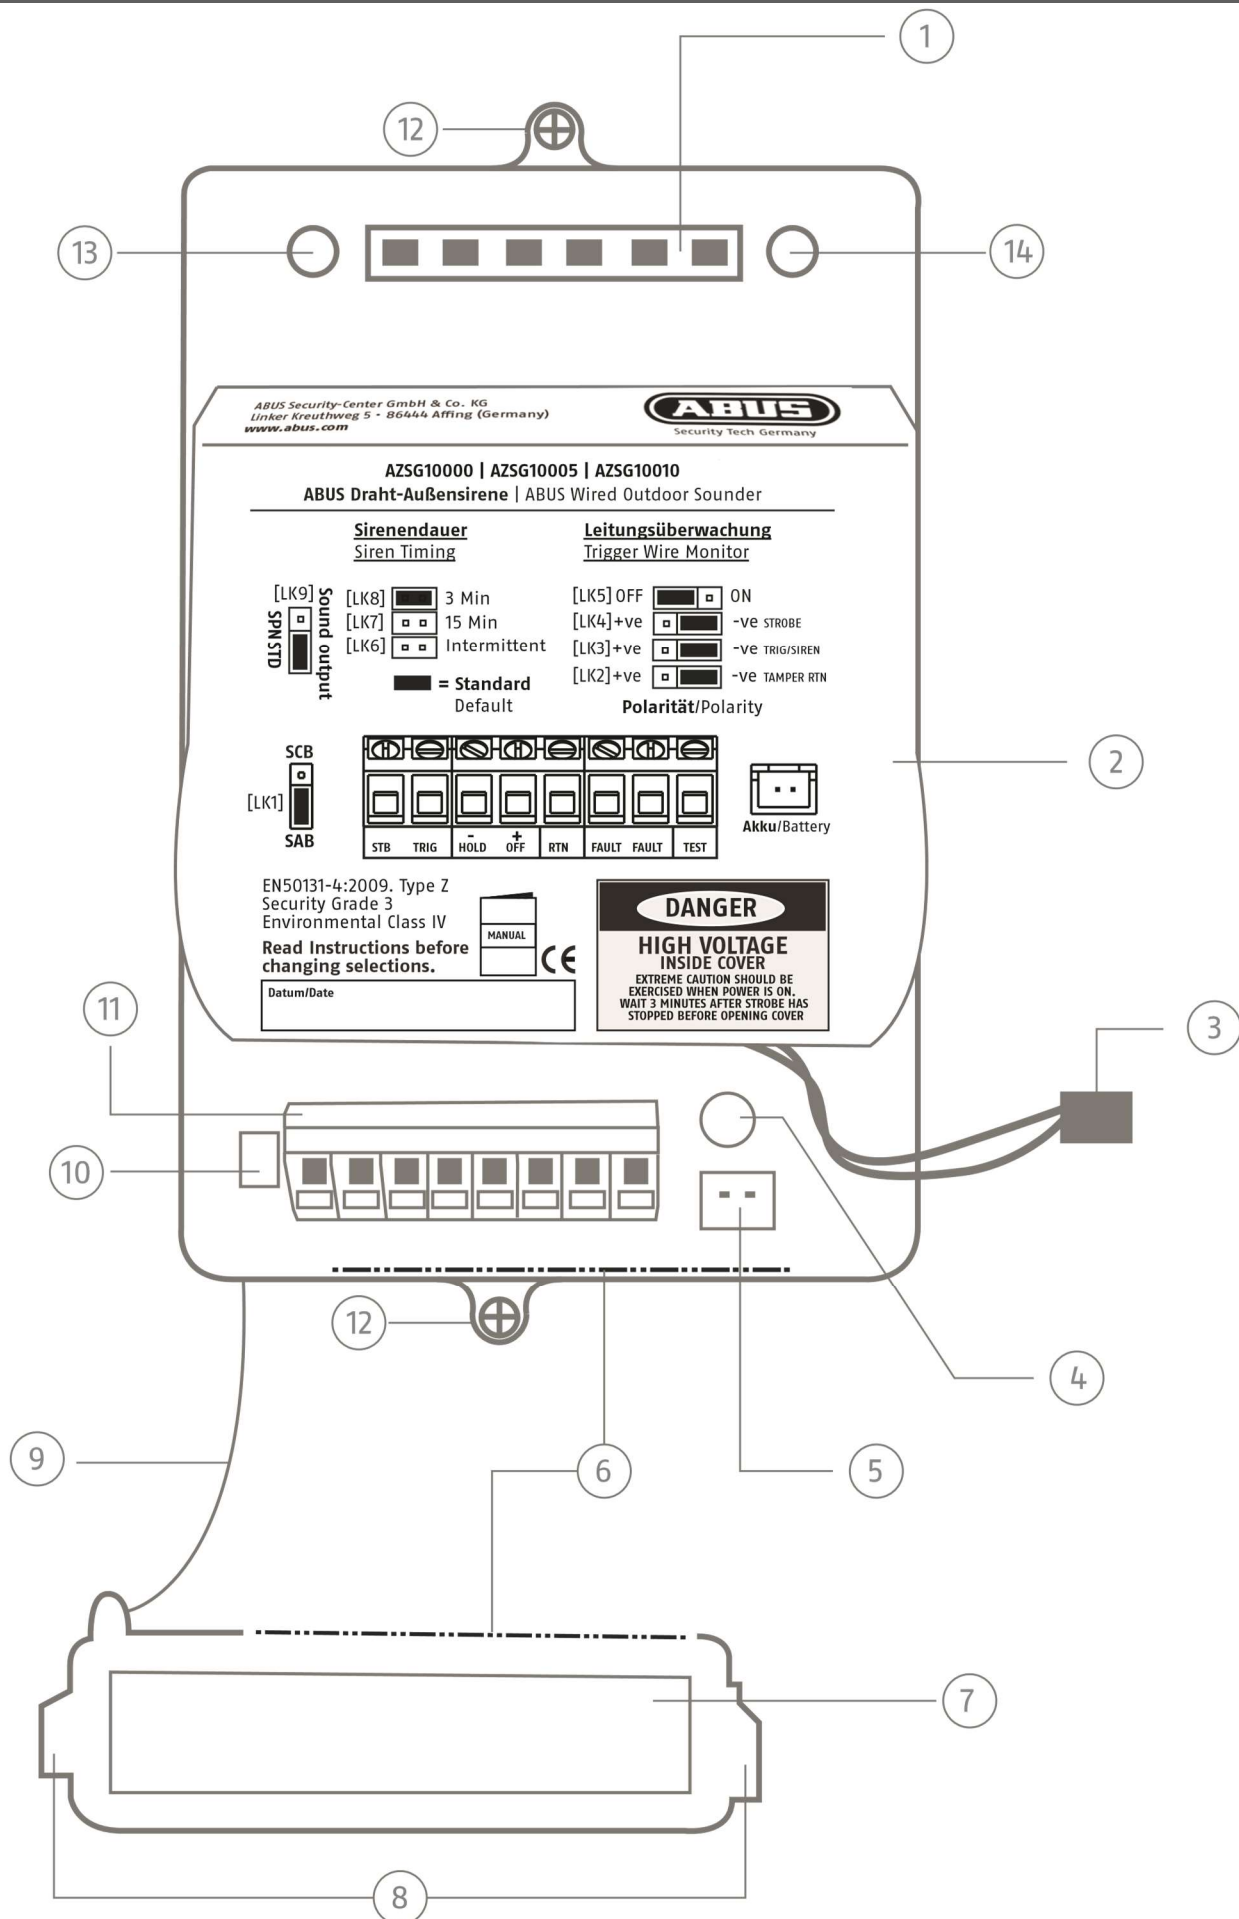

Figure 2: Overview of the inner housing
- Connect the plug of the already inserted battery (No 3 Fig. 2) to the battery holder (No 5 Fig. 2).
- Close the inner housing with the terminal cover (No 7 Fig. 2).
Note: the jumpers [LK2] – [LK9] can only be reached if the inner housing has been opened with two screws (Fig. 2 No 12). [LK1] (Fig. 2 No 10) can be reached by opening the terminal cover. The terminals can all be reached by opening the terminal cover.